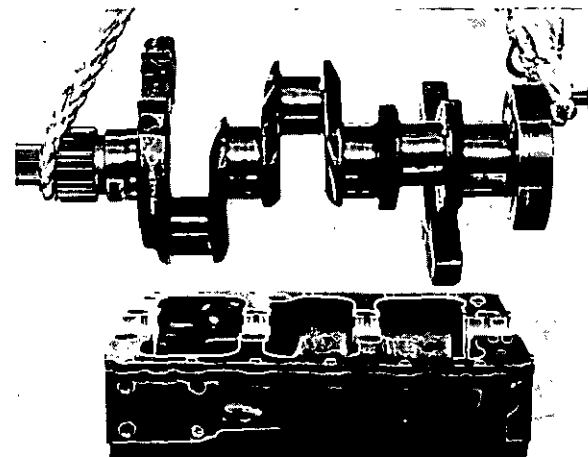

Fig. F.5
9. Lift out crankshaft (Fig. F.5) and remove upper half bearings. Mark bearings to ensure refitment in original positions.